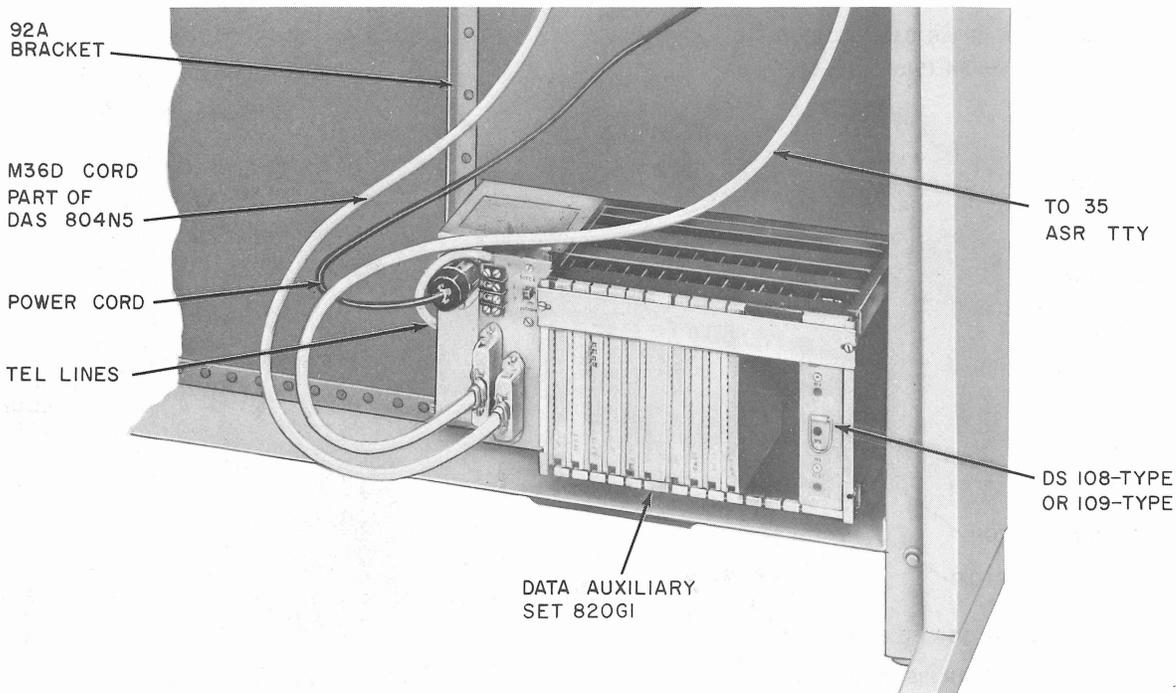

Fig. 6—Data Auxiliary Set 820G1 Mounted in a 35 ASR TTY Using a 92A Bracket
**2.09** The interconnections of the station components for a 35 ASR TTY using a DAS 820G-type controller is shown by Fig. 3. All plugs and connectors shall be installed as indicated by Fig. 3. The DAS 820G-type controller is physically mounted using the 92A brackets. Figure 6 shows a DAS 820G1 controller mounted in a 35 ASR TTY.